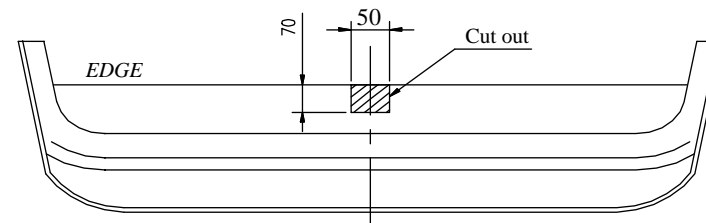

Fig. 2
2. In bottom part of the bumper cut out the hole as show in the fig. 2
4. Put bar of the towbar (pos. 1) into the chassis member and fix with bolts M10x30mm (pos. 7), use big washers $\varnothing 35 \times \varnothing 12 \times 3$ mm (pos. 11).
5. Put brackets (pos. 4 and 5) to the rear piece and fix it through holes pos. A to the bar of towbar using bolts M8x30mm (pos. 8), use big washers $\varnothing 25 \times \varnothing 9 \times 2$ mm (pos. 12).
6. Through holes (pos. B) in brackets (pos. 4 and 5) fix nuts M8 with big washers $\varnothing 25 \times \varnothing 9 \times 2$ mm. Take care at the torque moment - **10 Nm**.
7. Through holes (pos. C) in brackets (pos. 4 and 5) make holes with drill $\varnothing 9$ mm, and next fix with bolts M8x30mm (pos. 8).
8. Fix tow-ball (pos. 2) and socket plate (pos. 3) by bolts M12x75mm (pos. 6) from accessories.